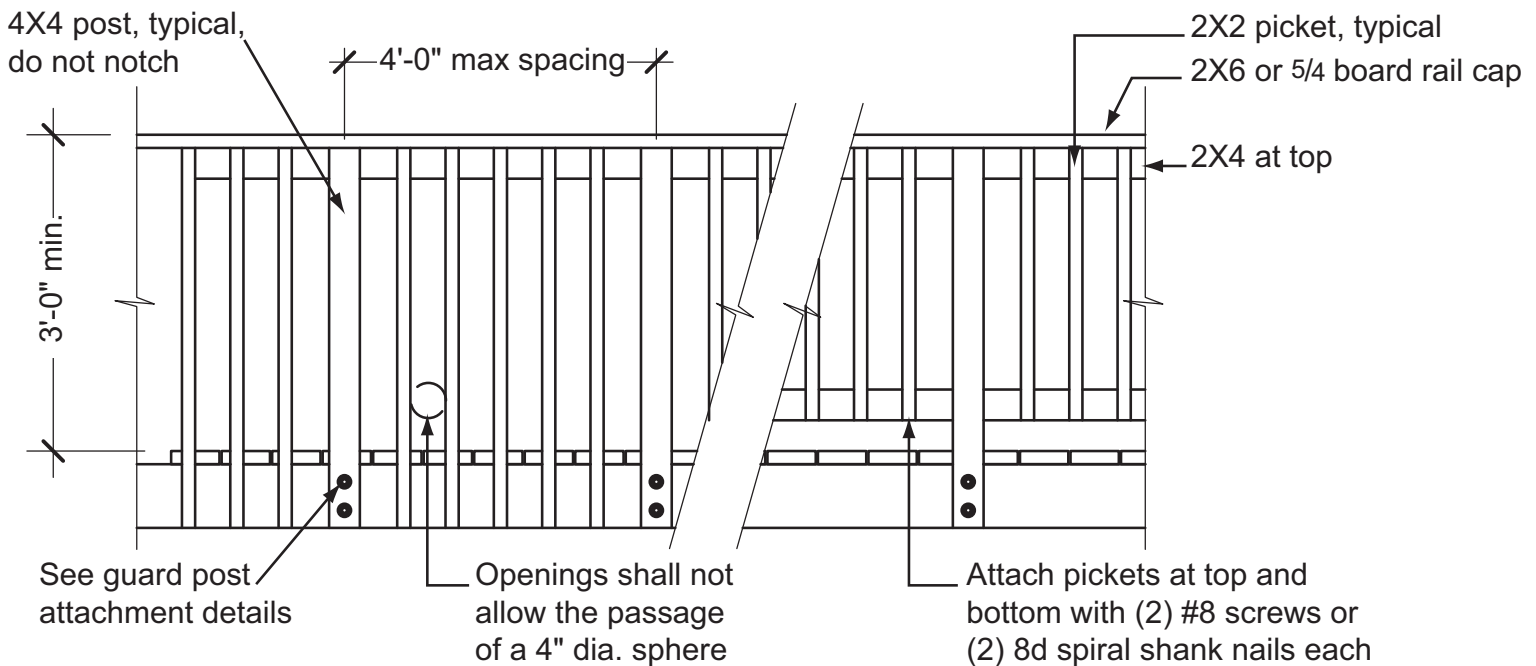
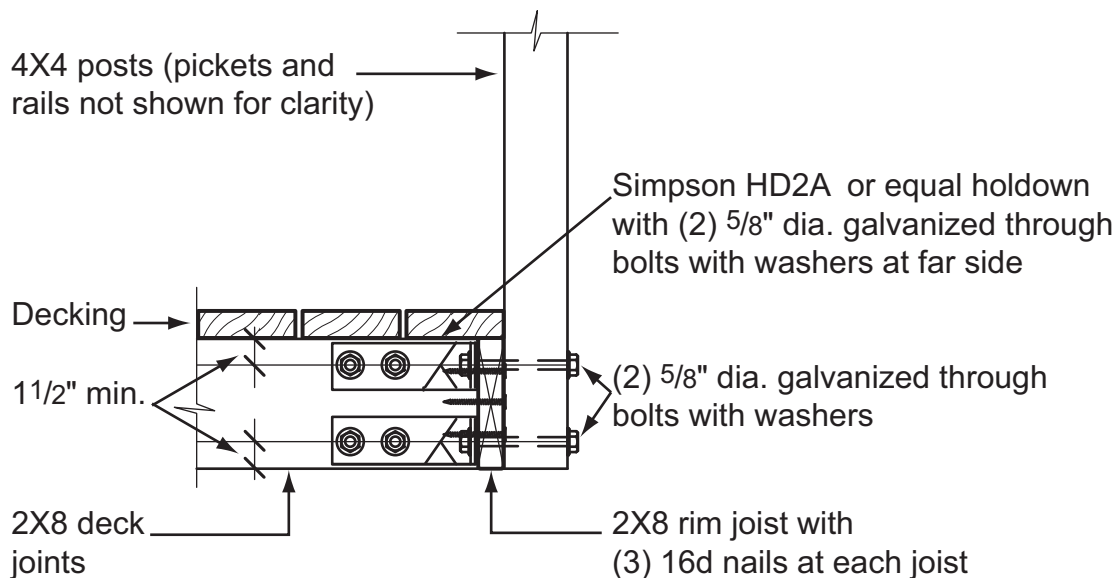

Fig. 23: Typical guardrail detail
Fig. 25: Guardrail attachment option 1 – Deck joists perpendicular, post on outside, manufactured connectors
Here are five options for guardrail post attachment; you may use one of these, or you may submit a different design for review and approval. Guardrail posts shall be spaced per **Figure 23** and attached per **Figures 25 through 32**.
Note: 2x8 minimum joists are required for Figures 25, 26, 27, 30, and 31, and minimum 2x10 joists for Figures 28 and 29.
4. See Figure 23 for typical guardrail elevation